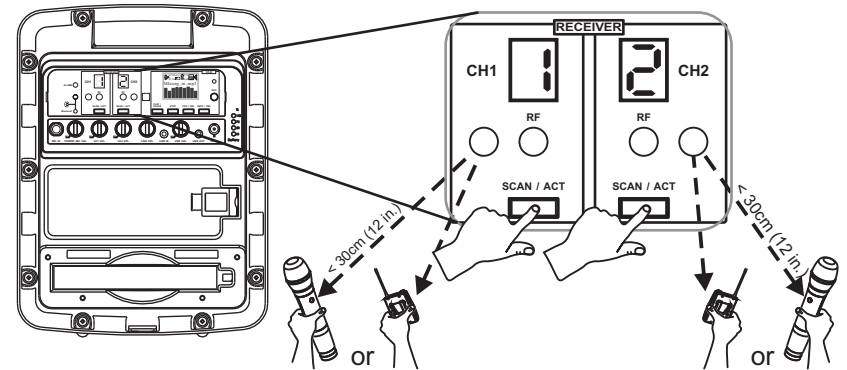

Fig. 6
- (1) Press and hold SCAN button and concurrently, turn on the Power Switch. Release SCAN button when LED display glows to indicate ID CODE is activated. Press & release SCAN button once move one number up. Turn off the power to save the change when a number is selected.
- (2) Turn on the system power again and perform the ACT synchronization (refers to “ACT Synchronization (Sync) between Receiver and Transmitter Channels.”) to ensure transmitter and receiver ID CODE are synchronized and working properly.
(F) ACT Synchronization (Sync) between Receiver and Transmitter Channels, Fig. 6:
- (1) Press and release SCAN/ACT button, the current channel blinks and is ready for ACT synchronization.
- (2) Power on handheld or bodypack transmitter. Bring the transmitter sync port (red indicator) within 30 cm (12-inch) of CH 1 or CH 2 receiver sync port, Fig. 6.
- (3) Once ACT synchronization is done, the channel screen will stop blinking and RF indicator glows green to indicate a successful RF link.
- (4) To cancel an accidental activation of ACT function, just press SCAN/ACT button again.